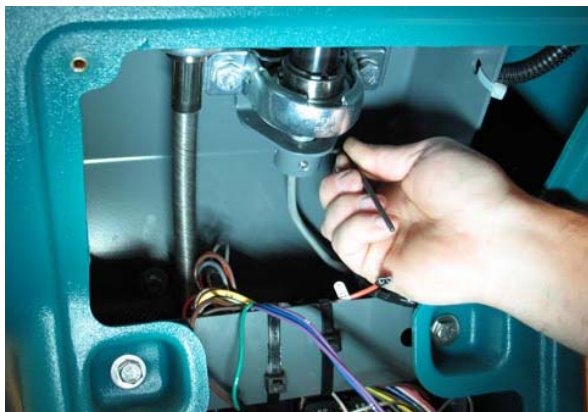
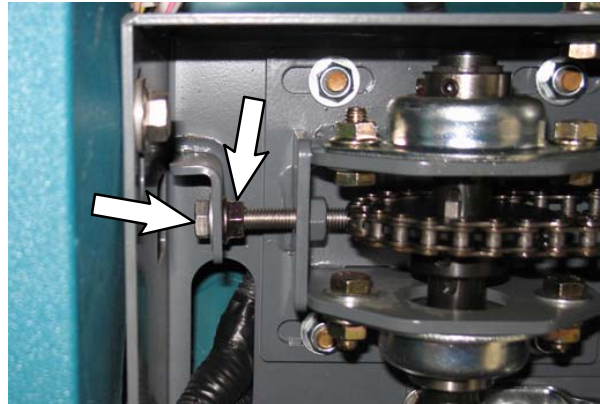
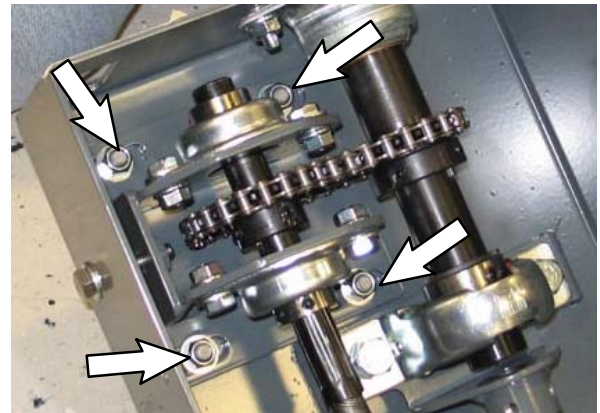
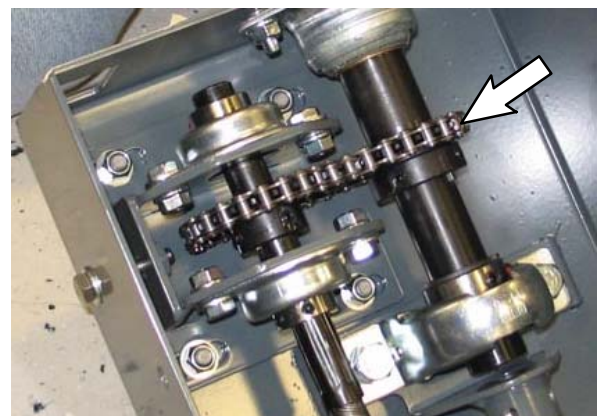

FIG. 3
FIG. 7
FIG. 8
FIG. 9
1. Loosen the socket set screws from the bracket inside the steering weldment. (Fig. 3)
3. Pull the steering touch panel assembly from the steering assembly. Discard the steering touch panel assembly. (Fig. 4 / Fig. 3)
4. Remove the 1- 11/16 in jam nut from the steering assembly. Set the jam nut aside. (Fig. 5 / Fig. 3)
5. Remove the steering wheel. Set the steering wheel aside. (Fig. 6 / Fig. 3)
6. Remove the hardware used to apply tension to the steering chain from the steering channel. Set the removed hardware aside. (Fig. 7 / Fig. 3)
7. Loosen the M8 hex nuts securing the support plate weldment to the steering channel. (Fig. 8 / Fig. 3)
8. Remove the chain from the steering assembly. (Fig. 9 / Fig. 3)